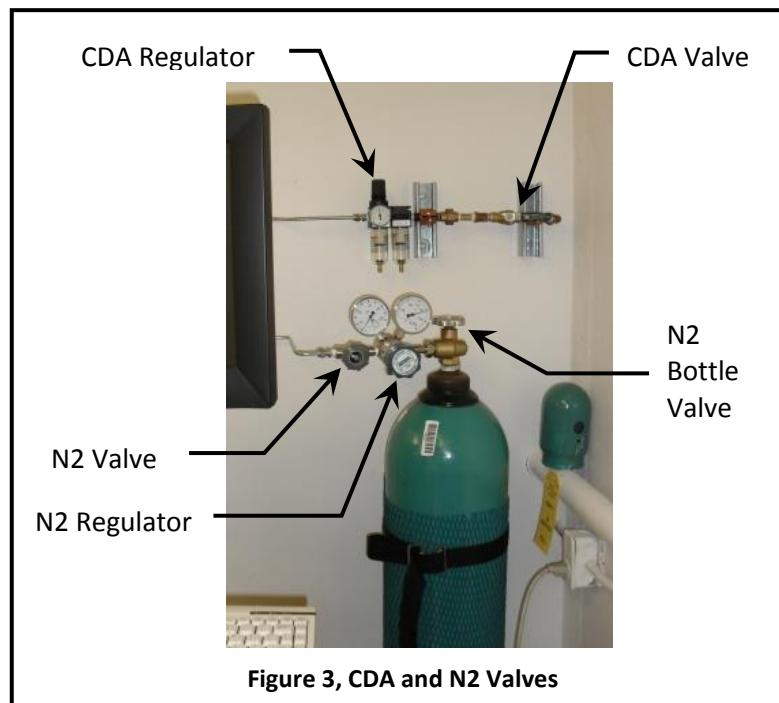

Figure 3, CDA and N2 Valves
6.1.3.2 N₂ flow should be regulate to 15-20 psi. (See *Figure 3.*)
6.1.4.1 CDA valve should be open, and flow regulated to 70-80 psi. (See *Figure 3.*)